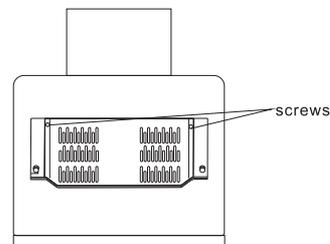

Fig.10
- Remove the grease filter by unscrewing 2pcs screws. This will disengage the filter from the hood . Tilt the filter downward and remove(Fig.10)